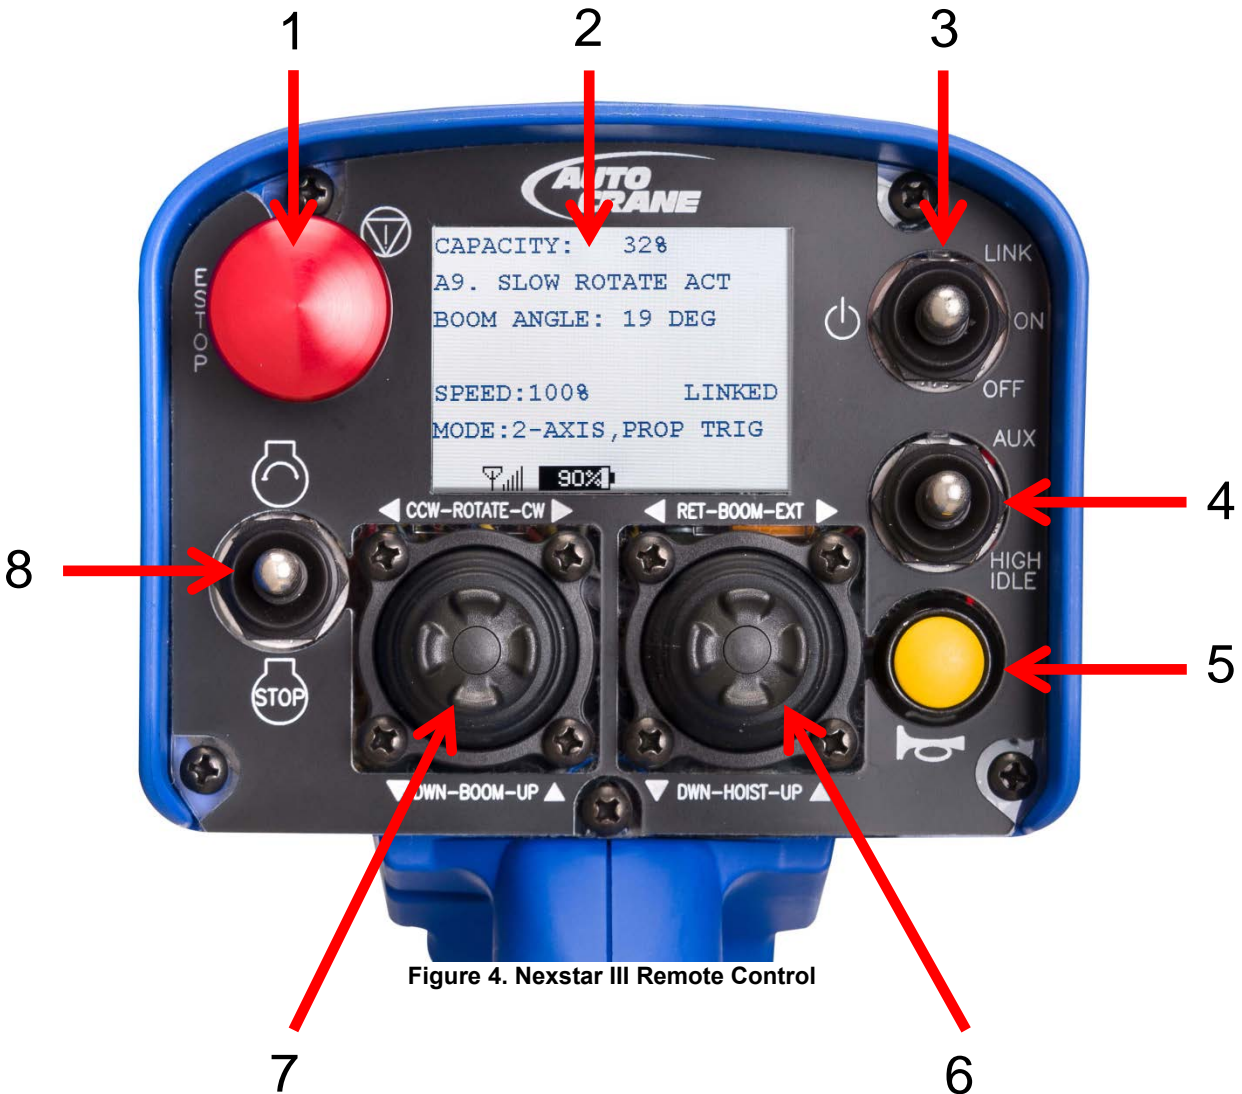

Figure 4. Nexstar III Remote Control
2. **Display Screen** – LCD screen that displays many crane operating parameters. See Figure 4.